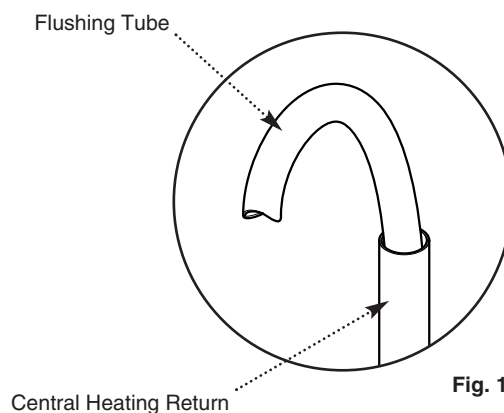

Fig. 19
1. Connect a tube to the central heating flow or return pipe (Fig. 19).